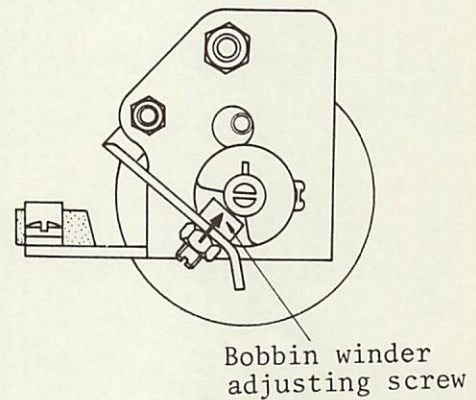

Fig.59
- \* The standard amount of wound thread is 80% of the bobbin diameter but if the amount is more than this, screw the bobbin winder adjusting screw toward the arrow direction and if it's less than this, reverse this action. (Fig.59)